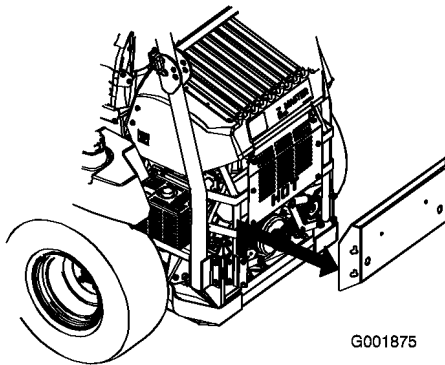

Figure 62
3. Remove the rear engine panel (Figure 62).